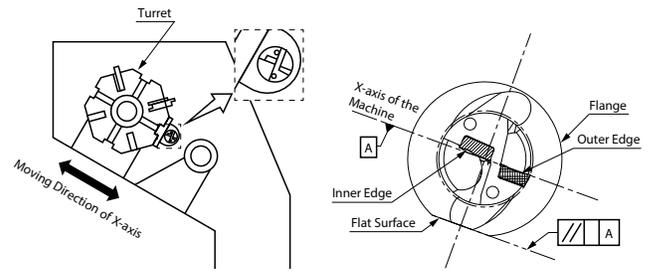

Fig.1 Installed into the Lathe
- It is recommended to set the outer insert as shown in Fig.1 with the outer insert facing the operator. (Fig.1)